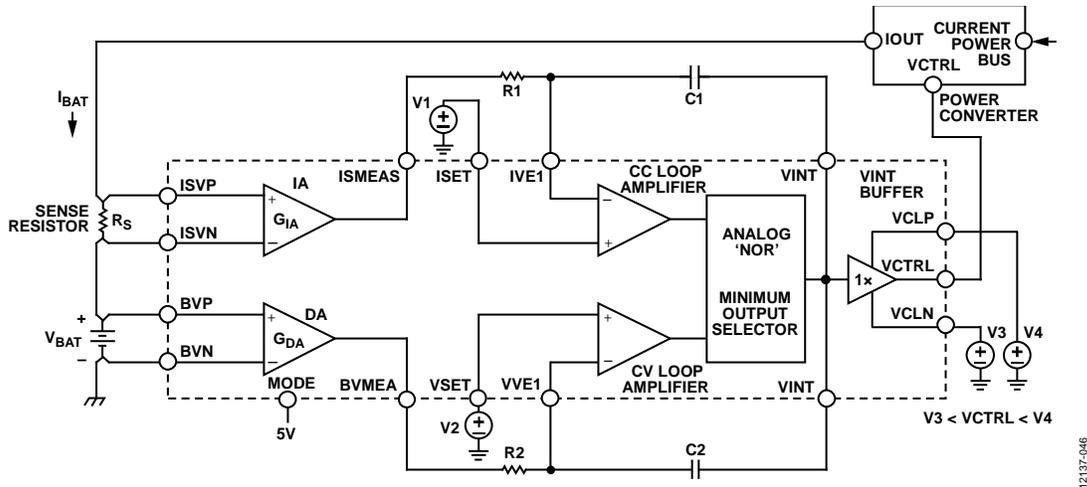
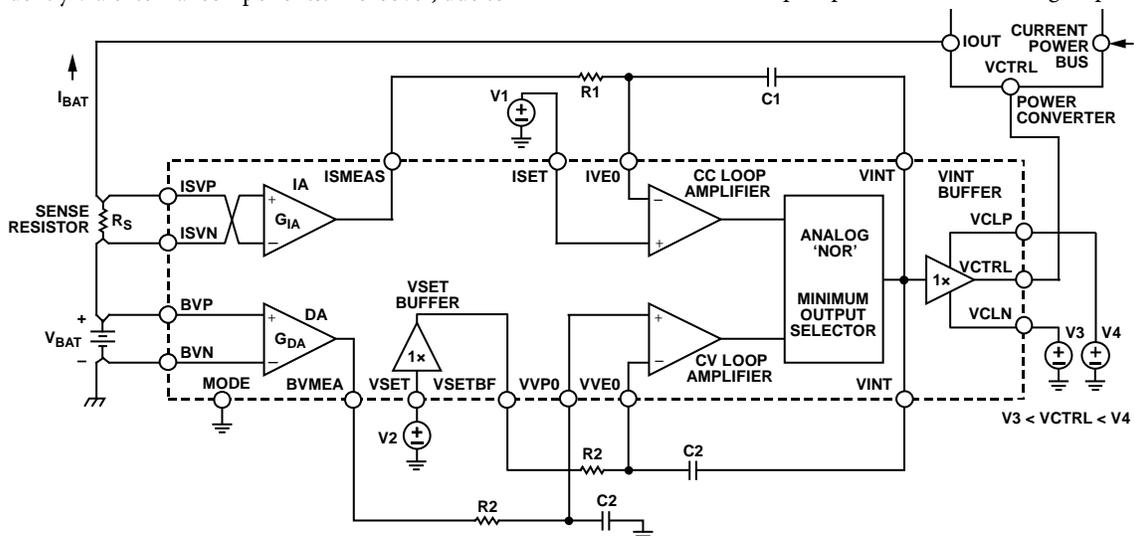

Figure 46. Functional Block Diagram of the CC and CV Loops in Charge Mode (MODE Pin High)
Figure 48. Functional Block Diagram of the CC and CV Loops in Discharge Mode (MODE Pin Low)
Figure 46 is the functional block diagram of the AD8451 CC and CV feedback loops for charge mode (MODE logic pin is high). For illustration purposes, the external networks connected to the loop amplifiers are simple RC networks configured to form single-pole inverting integrators. The outputs of the CC and CV loop filter amplifiers are coupled to the VINT pins via an analog NOR circuit (minimum output selector circuit), such that they can only pull the VINT node down. In other words, the loop amplifier that requires the lowest voltage at the VINT pins is in control of the node. Thus, only one loop amplifier, CC or CV, can be in control of the system charging control loop at any given time.
The following steps describe how the AD8451 implements the CC/CV charging profile (see Figure 46). In this scenario, the battery begins in the fully discharged state, and the system has just been turned on such that $I_{BAT} = 0$ A at Time 0.
Figure 48 is the functional block diagram of the AD8451 CC and CV feedback loops for discharge mode (MODE logic pin is low). In discharge mode, the feedback loops operate in a similar manner as in charge mode. The only difference is in the CV loop amplifier, which operates as a noninverting integrator in discharge mode. For illustration purposes, the external networks connected to the loop amplifiers are simple RC networks configured to form single-pole integrators (see Figure 48).
Unlike simpler controllers that use passive networks to ground for frequency compensation, the AD8451 allows the use of feedback networks for its CC and CV loop filter amplifiers. These networks enable the implementation of both proportional differentiator (PD) Type II and proportional integrator differentiator (PID) Type III compensators. Note that in charge mode, both the CC and CV loops implement inverting compensators, whereas in discharge mode, the CC loop implements an inverting compensator, and the CV loop implements a noninverting compensator. As a result, the CV loop in discharge mode includes an additional amplifier, VSET buffer, to buffer the VSET node from the feedback network (see Figure 48).
The unity-gain amplifier (VINT buffer) is a clamp amplifier that drives the VCTRL pin. The VCTRL pin is the control output of the AD8451 and the control input of the power converter (see Figure 46 and Figure 48). The output voltage range of this amplifier is bounded by the clamp voltages at the VCLP and VCLN pins such that